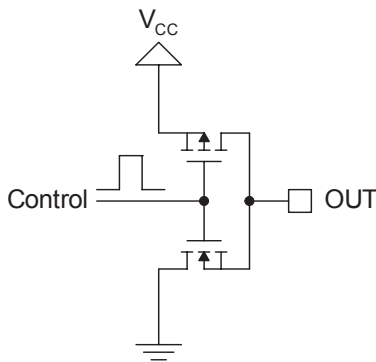

Figure 1: Push/Pull Output Circuit.
- T_{ON} is the time after latch timeout to 90% of the output voltage. See Figure 1.
- T_{OFF} is the time after off timeout to 10% of the output voltage. See Figure 1.
Each device push/pull output may be represented by the following circuit and simplified equivalent model (Figures 1 and 2):